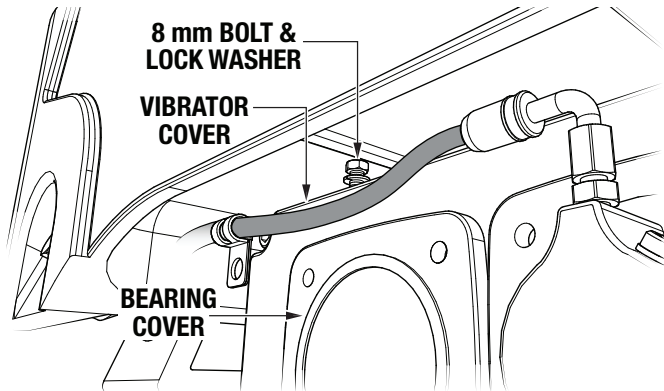

Figure 6. Bolt Removal (Vibrator Cover)
- Using a 13 mm offset wrench, remove one 8 mm bolt and lock washer securing the vibrator cover to the vibrator (Figure 6). The bolt and washer are located just above the bearing cover to the left. Retain the bolt and lock washer for later.